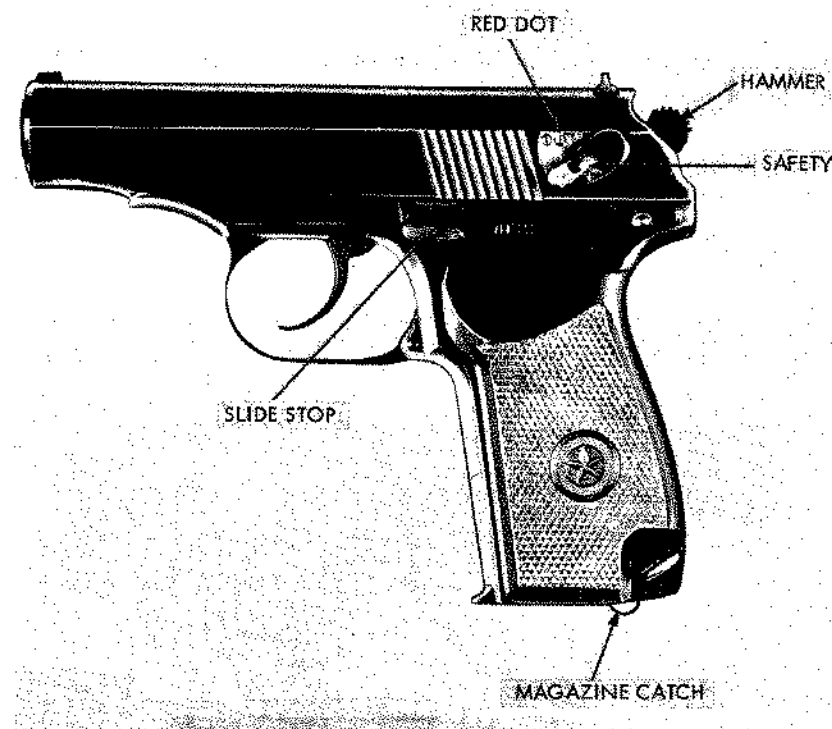

Figure 1. Soviet Makarov pistol (PM).
The Makarov pistol is the standard sidearm of most major Eurasian Communist armies. It is known to be produced in the Soviet Union, East Germany, and the People's Republic of China (PRC). The Soviet version, the PM (Pistolet Makarov), can be identified by its lanyard loop and the encircled star cast into the grips (fig 1). The East German Pistole M has plain grips and no lanyard loop (fig 2). The PRC version, the Type 59 pistol, has "59 SHI" stamped on its receiver. The Makarov is an eight-shot, semiautomatic, blowback-operated, magazine-fed pistol fitted with a double-action trigger mechanism. In addition to conventional functioning, this mechanism also allows the hammer—if uncocked—to be cocked and released by a single long pull on the trigger. The Makarov fires the 9x18-mm pistol cartridge (sec VI).
b. Insert the magazine into the pistol so that the magazine catch (fig 1) retains the magazine.
c. Rotate the safety (fig 1) downward; grasp the slide by its milled grooves and pull it fully rearward against spring tension. Release the slide; it will return forward, loading the pistol.
d. If desired, set the pistol on safe by rotating the safety upward until the red dot (fig 1) on the slide is covered. The hammer will fall; but because the safety blocks the firing pin, the pistol will not fire.
f. Remove the magazine by pressing the magazine catch away from the magazine and withdrawing the magazine. To close the slide, if open, press down on the slide stop (fig 1); or remove the magazine and pull the slide slightly rearward, then release it.
f. When the last round is fed from the magazine, the magazine follower moves to its highest position. The magazine spring, working through a lug on the lower left side of the follower, then presses the slide stop (fig 1) up against the slide. When the slide recoils, the slide stop enters a notch in the slide and holds it open.